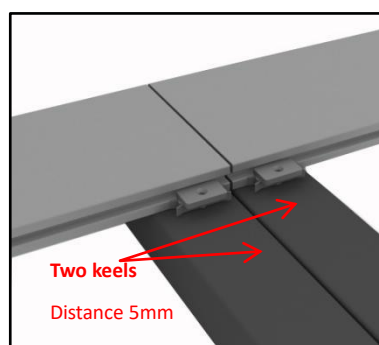

Figure 2
3. Two keels should be used together in the connection of decking. The distance between two keels should be more than 5mm to facilitate rapid drainage and ventilation, and to avoid decking connection swelling after water absorption. As shown in figure 2.